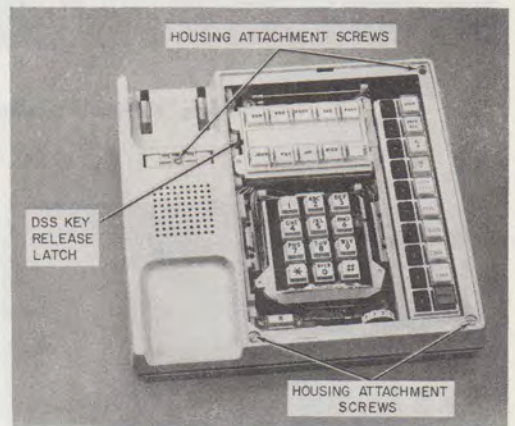

Fig. 55—Basic Satellite Set, Faceplate Removed
- (b) Push the metal latch on the left side of the key (Fig. 55) to the right to release the key